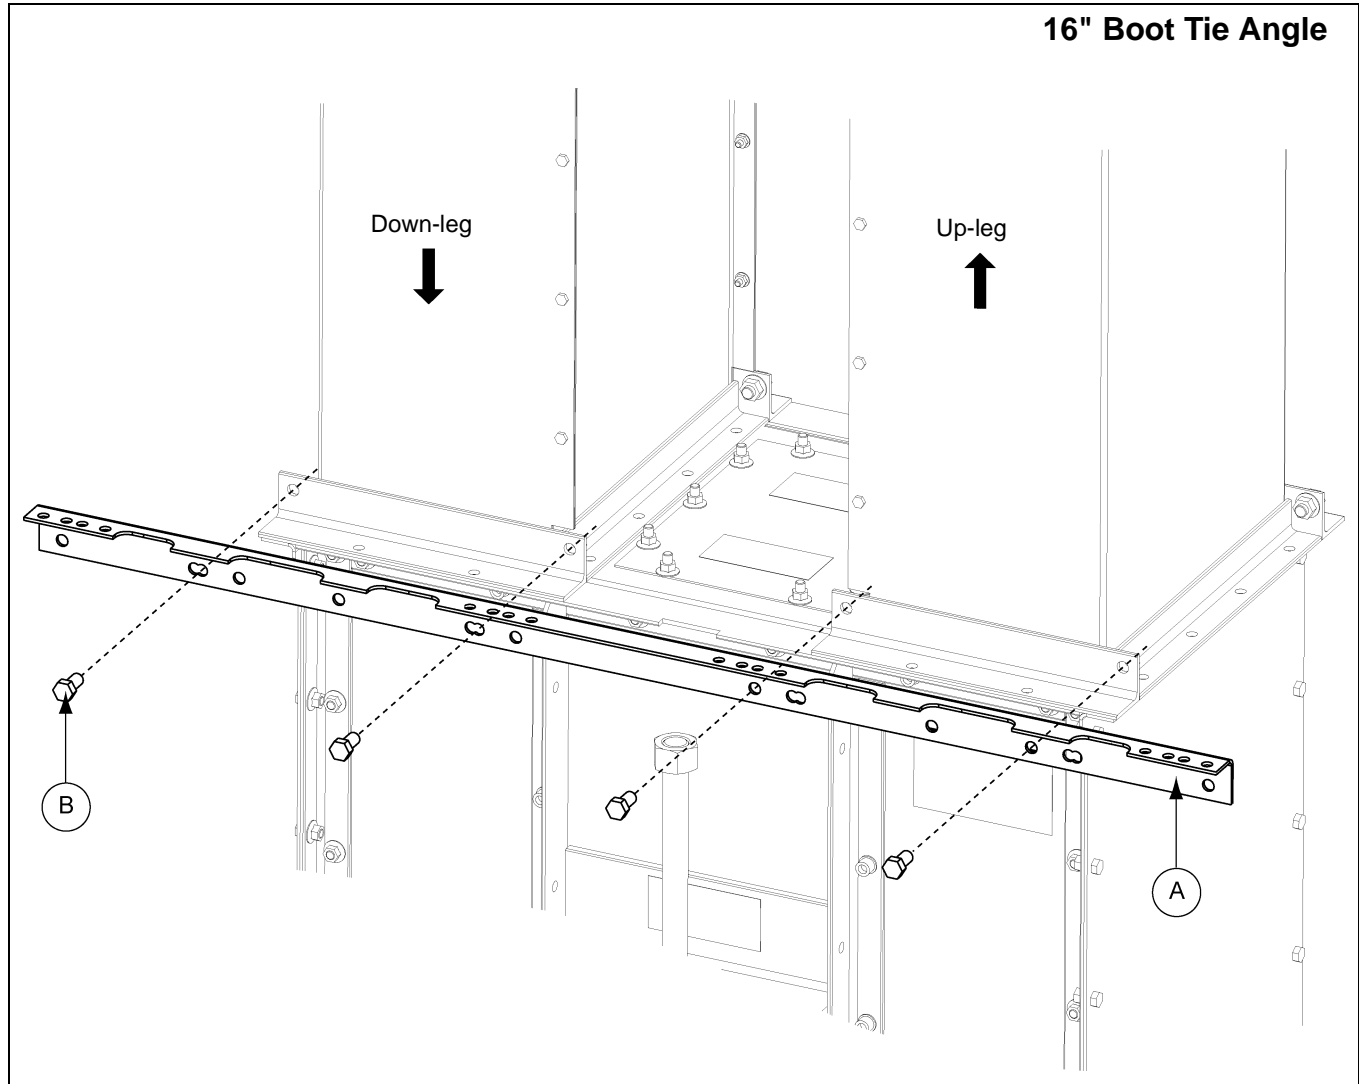
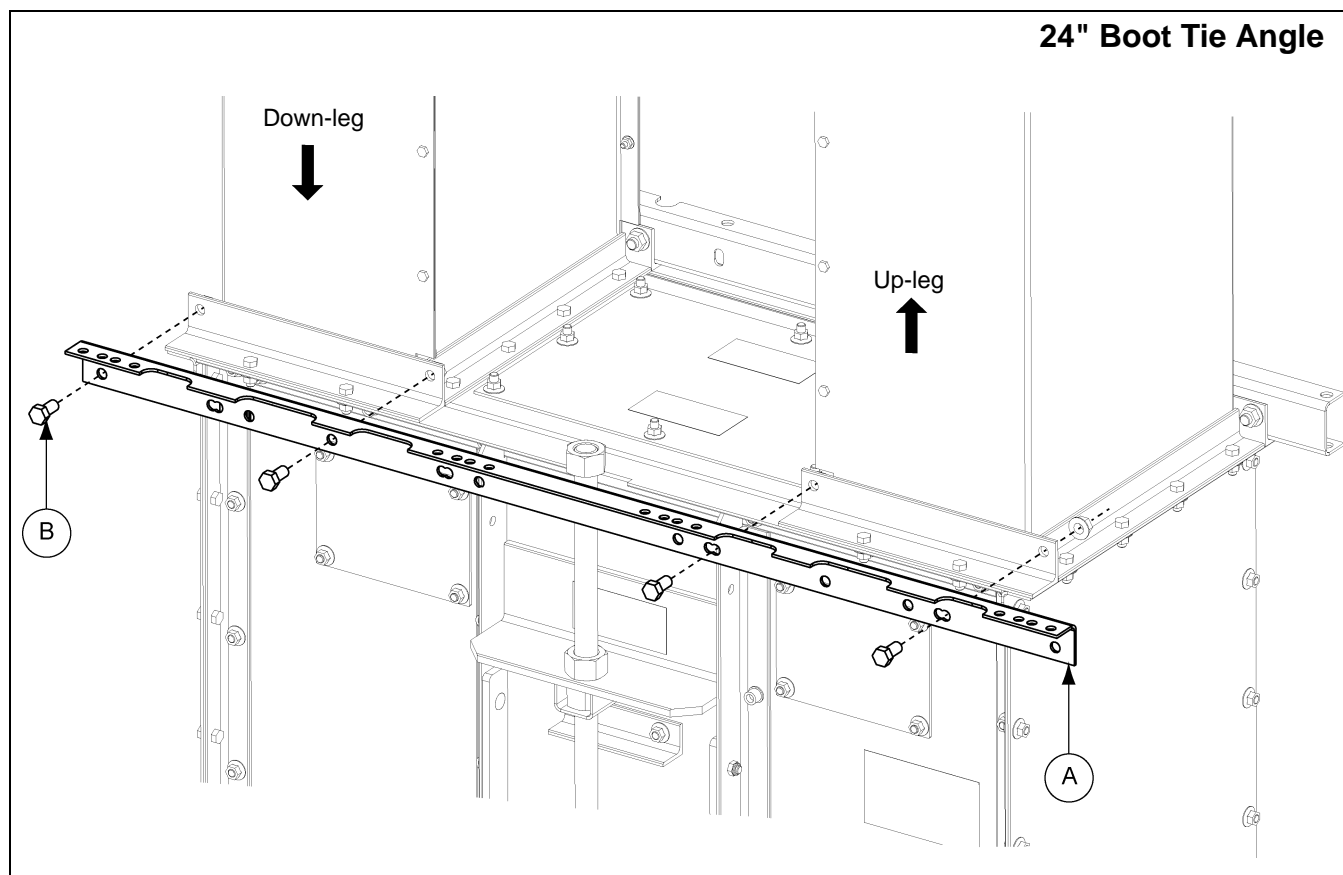

Figure 6A 16" Boot Tie Angle
Figure 6B 24" Boot Tie Angle
1. On the NON-LADDER SIDE, attach tie angle to the trunking using 1/2" x 1" bolts. *(See Figure 6A below and Figure 6B on Page 20.)*
- a. **For 16" Boot Tie Angle:** With lip of tie angle up and outward, align tie angle so that it extends beyond the trunking at each end. *(See Figure 6A.)*
- b. **For 24" Boot Tie Angle:** With lip of tie angle up and outward, align edge of tie angle to edge of trunking at down-leg end. With this alignment, tie angle will extend slightly beyond the edge of trunking at the up-leg end, as shown in Figure 6B.